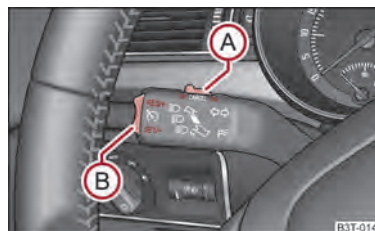

Fig. 125 Operating lever: Rocker button and switch of the cruise control system
The cruise control system is operated by means of the switch **(A)** ⇒ fig. 125 and the rocker button **(B)** in the left lever of the multi-functional switch.
- You can **increase** the stored speed without depressing the accelerator, by pressing the rocker button **(B)** ⇒ fig. 125 in the **RES** position.
The **Resumption** of the stored speed is achieved by releasing the brake or clutch pedal, on vehicles fitted with automatic gearbox only after releasing the brake pedal and after shortly pressing the rocker button **(B)** ⇒ fig. 125 into the position **RES**.
- Press the switch **(A)** ⇒ fig. 125 to the right into position **OFF**.